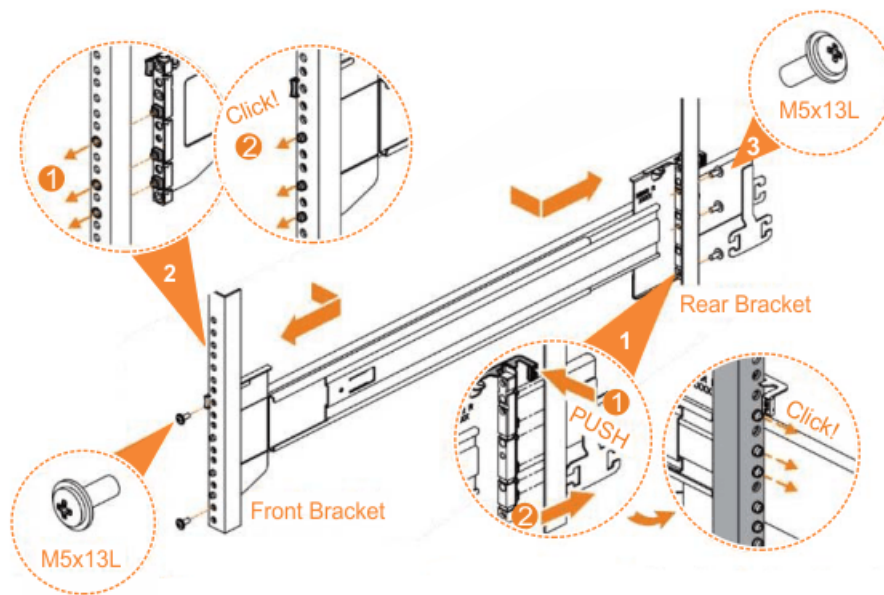

Figure 26. Installing the rail assembly to the rack frame
6. Use the M5 screws to install the outer rail member and bracket assembly to the rack, as shown in Figure 26 on page 47.